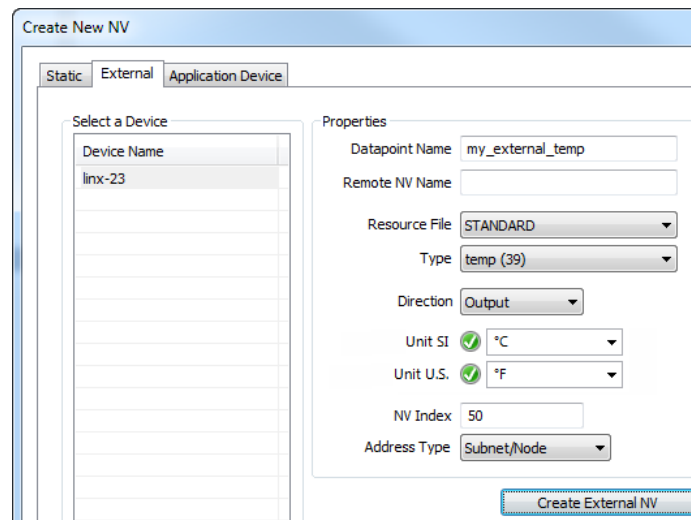

Figure 103: Create a new external NV.
3. Click on the tab **External** as shown in Figure 103.